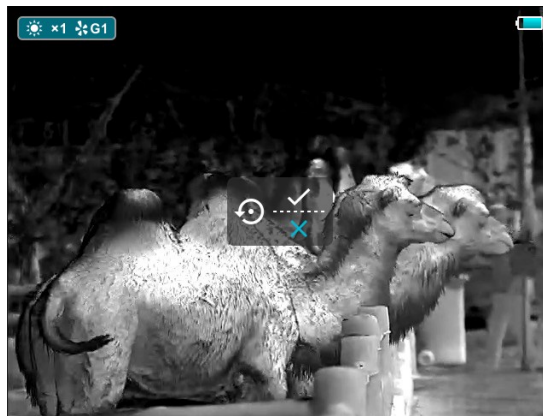

Fig.6 Default resetting interface
- In the advanced menu, press **Power/C** button to select the default resetting item, then press **M** button to enter the resetting interface as shown in figure 6.